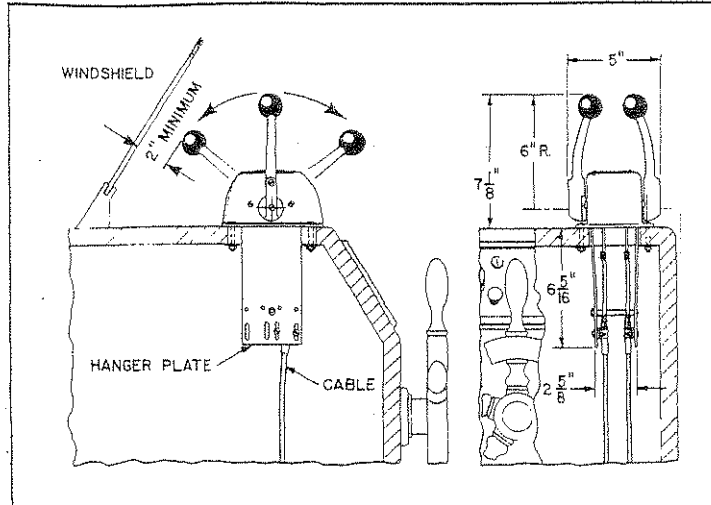

FIGURE 2
1. Allow clearance for forward and reverse movement of .. the hand lever. (See Figure 2).